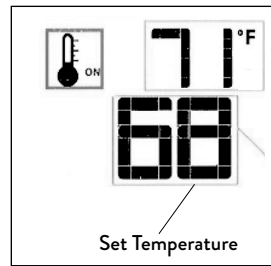

Fig. 14.11. Thermostat ON.
- To activate this function, press the Thermostat Key. The display will indicate that the room thermostat is “ON” and the current Set Temperature is now displayed. Fig. 14.11.